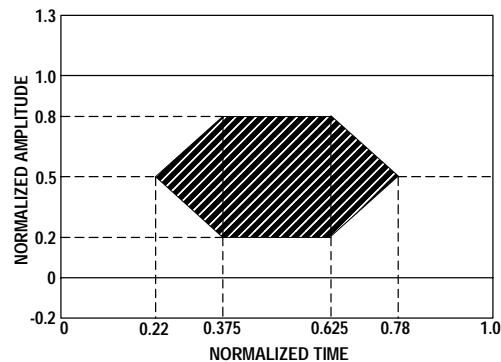

Figure 2. Transmitter Optical Eye Diagram Mask
4. Laser transmitter pulse response characteristics are specified by an eye diagram (Figure 2).